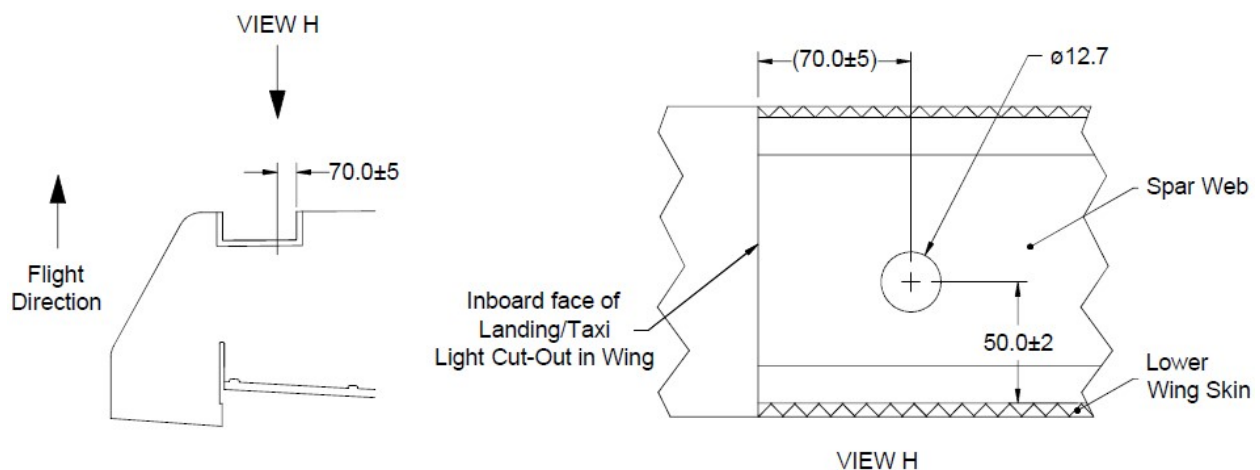

Figure 37: Modification to Wing Spar
- 13.1.8** Drill a hole through the Spar Web according to View H of Figure 37. Take caution as to not damage the surrounding laminate.